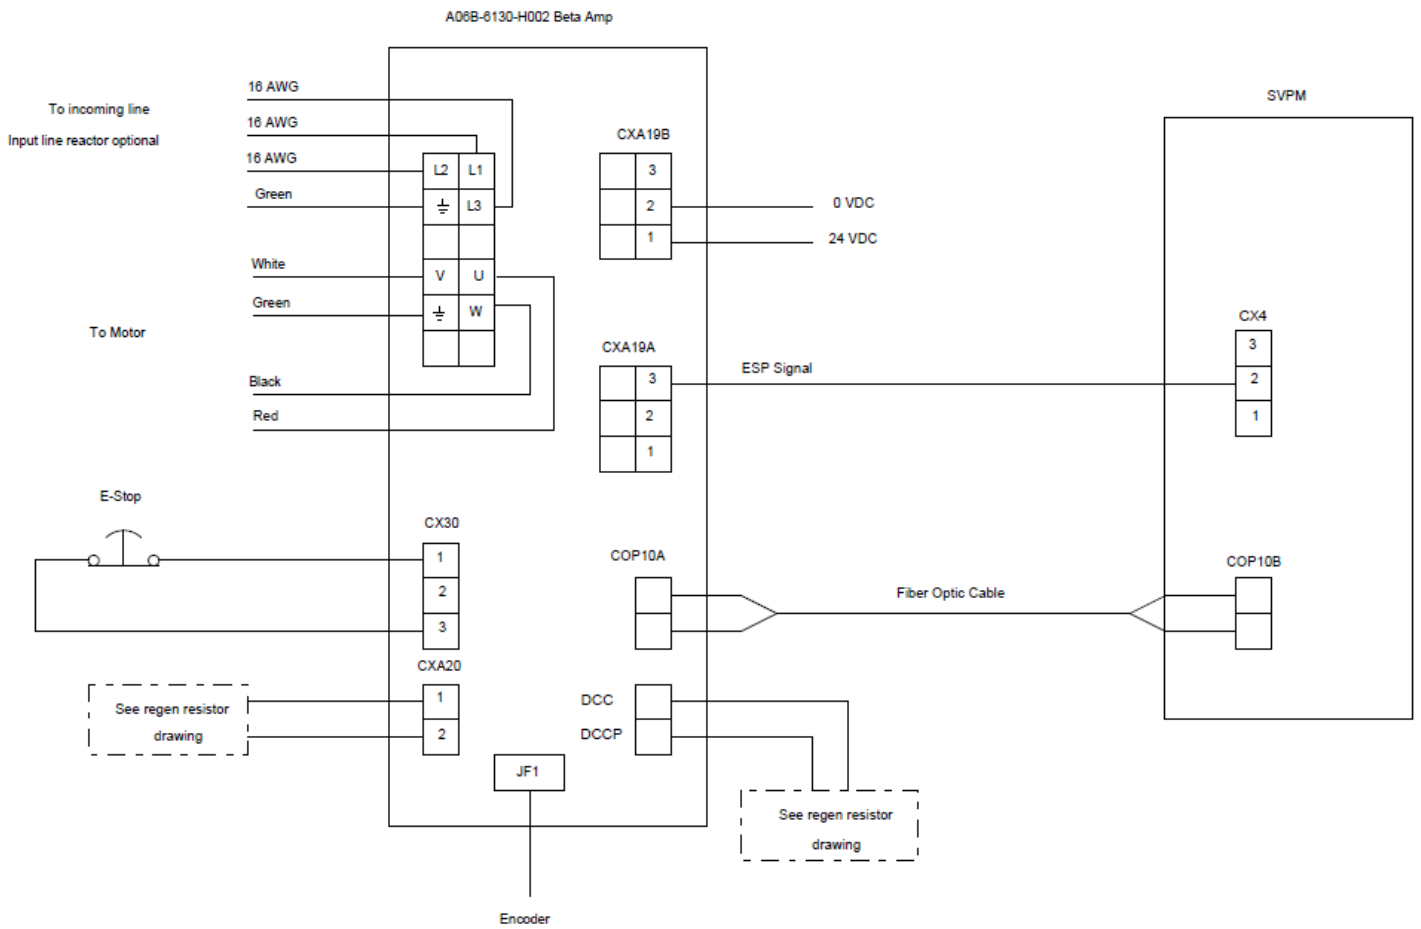

Figure 6: Typical Beta amplifier connections
9. Connect spring to hold cables and air lines out of machining area and chip tray, see Figure 6.